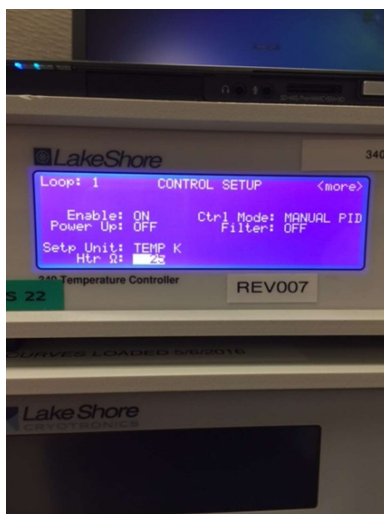

Figure 8
2.4 Using enter key, select heater resistance (Figure 8).